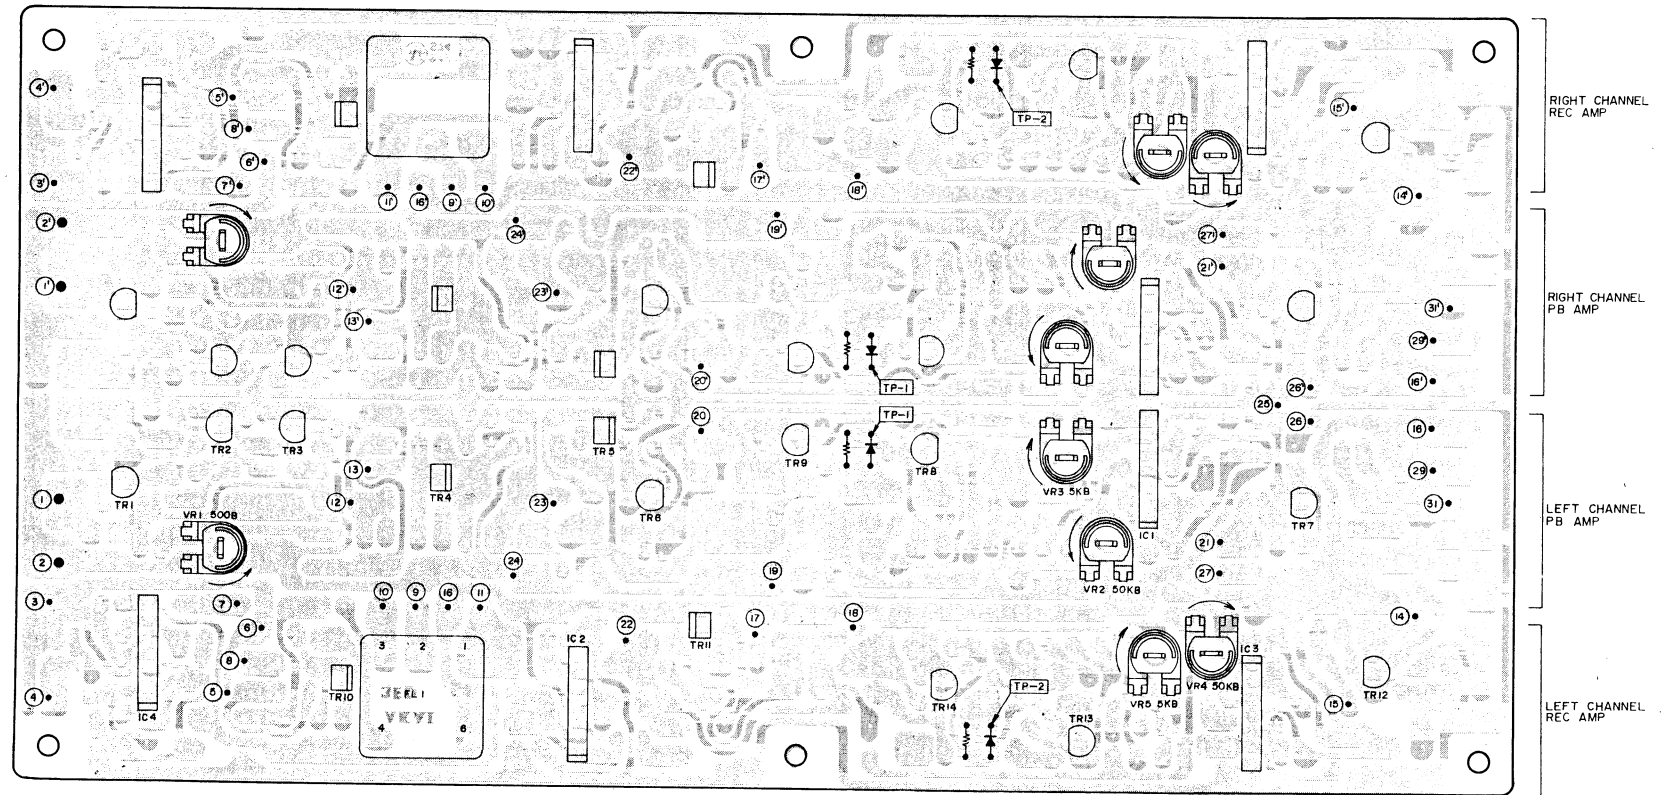

Fig. 17 Pre Amp P.C Board CA-5205
1) Recording/Playback Amplifier Adjustment(Refer to Fig. 17,18 and 19 and Chart 1)
## 2) Dolby Noise Reduction Circuit Adjustment (Refer to Fig. 17)
## 3) Recording Dolby Noise Reduction Amplifier Adjustment (Refer to Fig. 17)
- e. With the Dolby Noise Reduction Switch at ON, adjust semi-fixed resistor VR4 (50 kB) shown in Fig. 17 to obtain a -20 dBm level at center terminal of Rec Level Volume
- f. Disconnect Test Point TP2 from ground and adjust semi-fixed resistor VR5 (5 kB) shown in Fig. 17 to obtain a -22 dBm level at center terminal of Rec level Volume.
- 4) Playback Dolby Noise Reduction Amplifier Adjustment (Refer to Fig. 17)
- Supply a 5 kHz signal to terminal (13) shown in Fig. 17 and obtain a -20 dBm line output level.